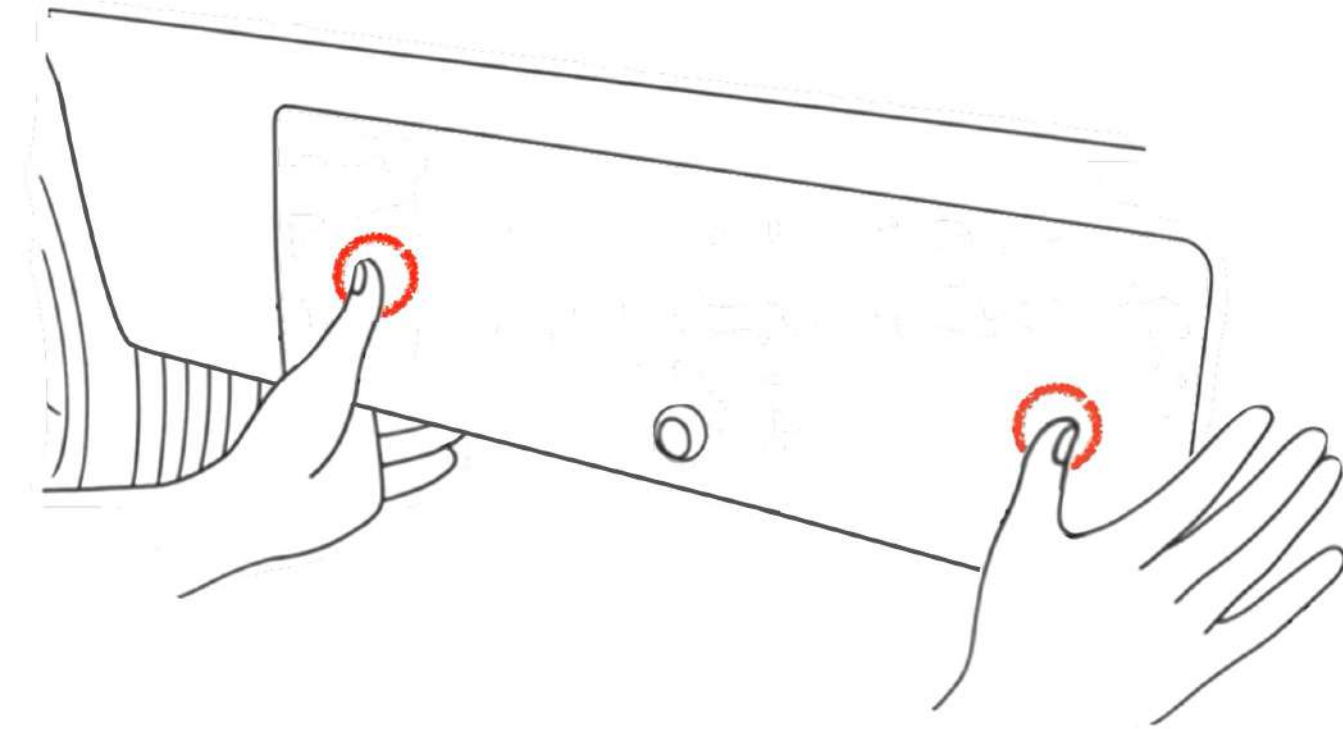

FIGURE 3
2. Open the maintenance compartment panel between the wheels on the left side of the vehicle by pushing down at the two equidistant points as shown in Figure 3.